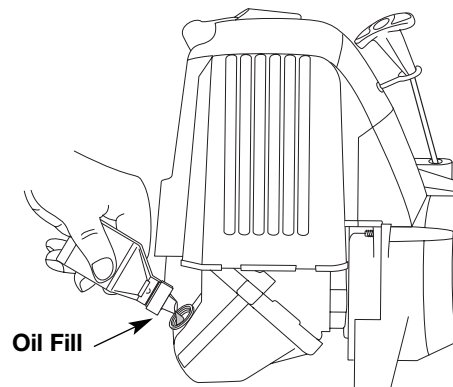

Fig. 8
4. Pour the entire bottle of oil into the oil fill hole (Fig. 8).